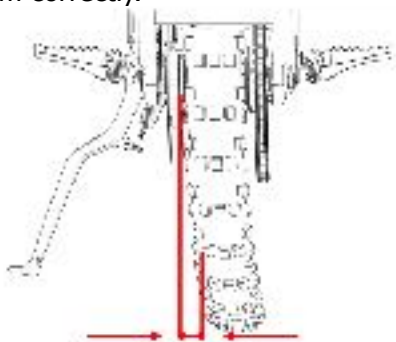

Fig 22
- Confirm wheels rotate **properly**. Check whether wheels swing transversely (see Fig 22).